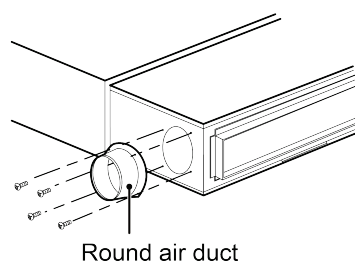

Fig 4.27
- (2) Install circular flange so that fresh air duct can be easily connected, as shown in Fig 4.27.
- (3) Both air duct and circular flange need to be well-sealed and insulated.
- (4) Fresh air should be the air that has been filtered.